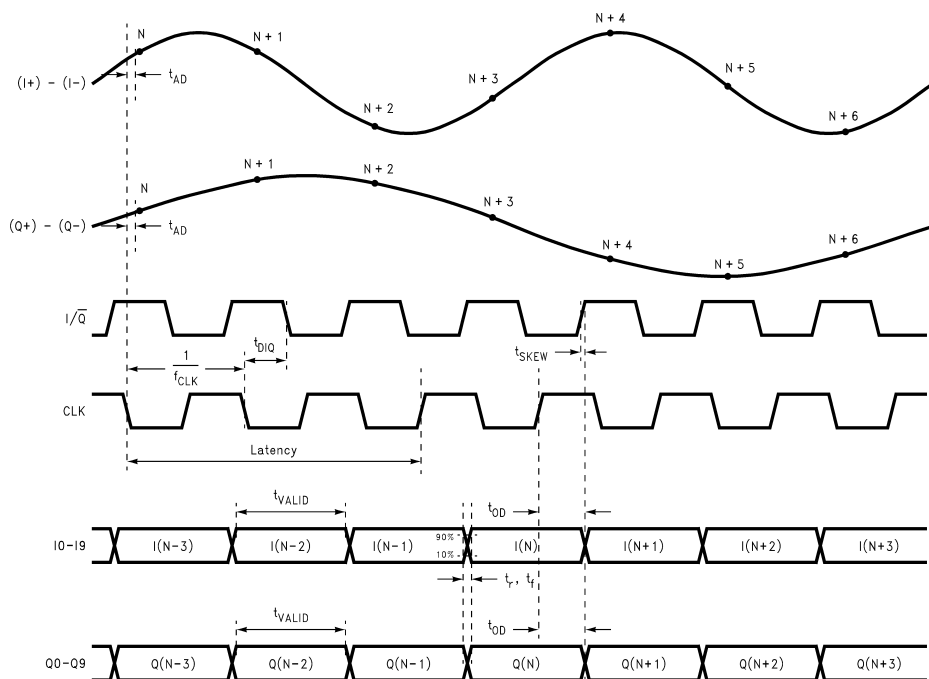

**Figure 2.**
- (1) The inputs are protected as shown below. Input voltage magnitude up to 300 mV beyond the supply rails will not damage this device. However, errors in the A/D conversion can occur if the input goes beyond the limits given in these tables. See Figure 2
- (2) Typical figures are at  $T_J = 25^\circ C$ , and represent most likely parametric norms.
- (3) Test limits are specified to TI's AOQL (Average Outgoing Quality Level). Performance is ensured only at  $V_{REF} = 1.0V$  and a clock duty cycle of 50%. The limits for  $V_{REF}$  and clock duty cycle specify the range over which reasonable performance is expected. Tests are performed and limits specified with clock low and high levels of 0.3V and  $V_D - 0.3V$ , respectively.